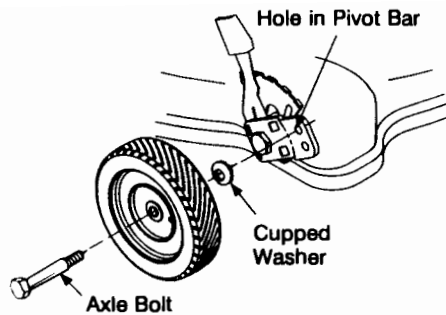

Figure 6 - 7" and 8" Front Wheel
- Attach the wheels to the pivot bar on the height adjusters. Use the upper hole in the pivot bar when assembling 8" wheels. See figure 6 and 7.